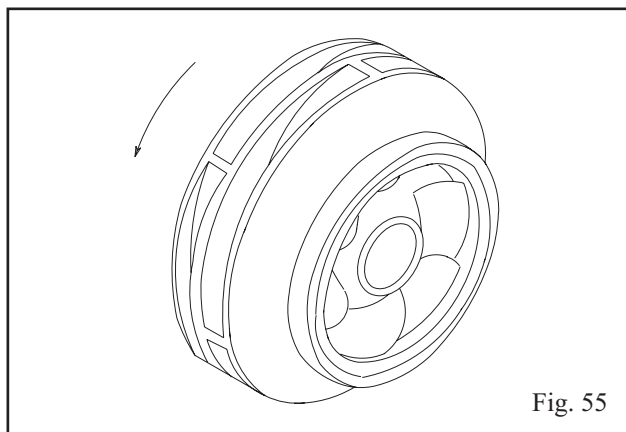

Fig. 55
1. Determine the correct positioning of the impeller (101) on the shaft (122) based on the direction of rotation. Refer to Figure 55.